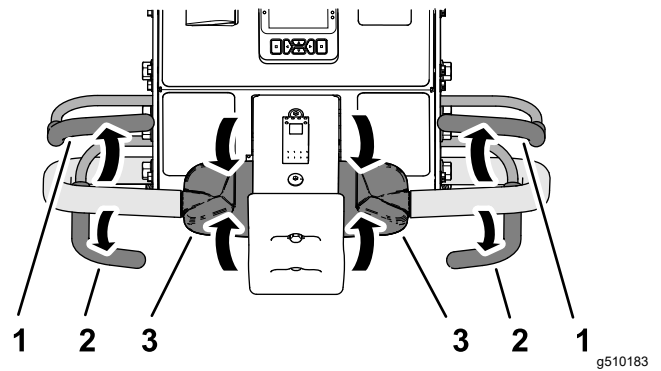

Figure 79
1. If you are aerating, release the aerate bail (Figure 79) to raise the coring head; refer to Raising the Coring Head \(page 46\).